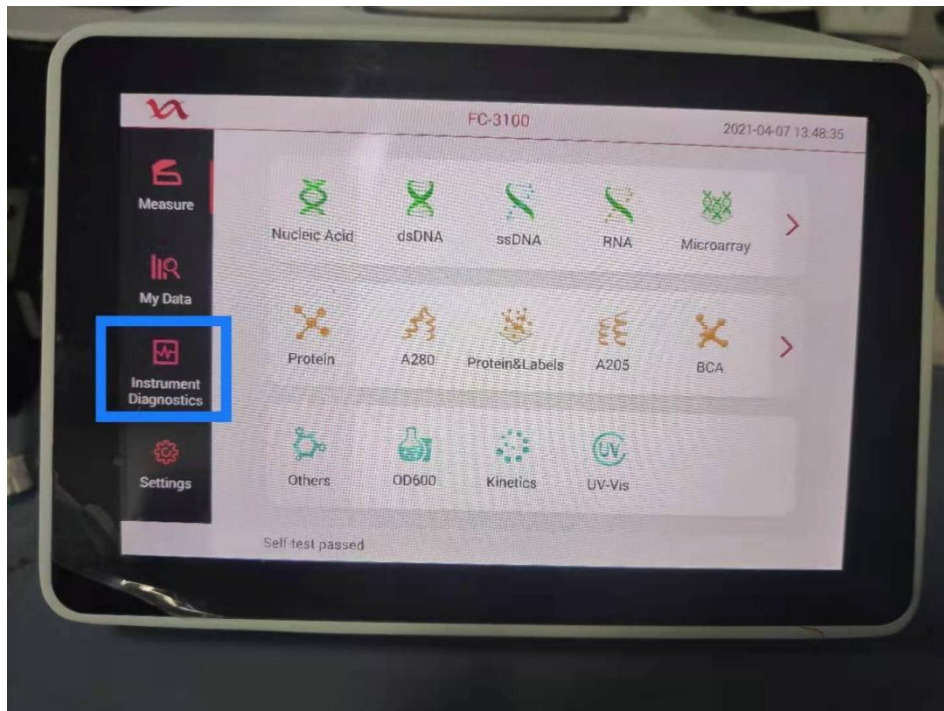

Figure.1
1. Start the Nanoready to enter the homepage, and then select the **Instrument Diagnostics**, as the Figure.1 shows.